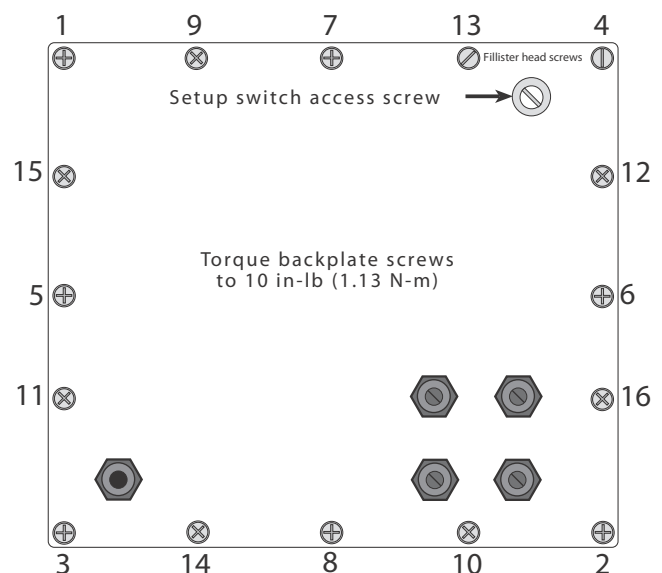

Figure 4. Torque Pattern for Backplate Screws
9. Position backplate over the enclosure and reinstall the backplate screws. Use the torque pattern shown in Figure 4 to prevent distorting the backplate gasket. Torque backplate screws to 10 in-lb (1.13 N-m).